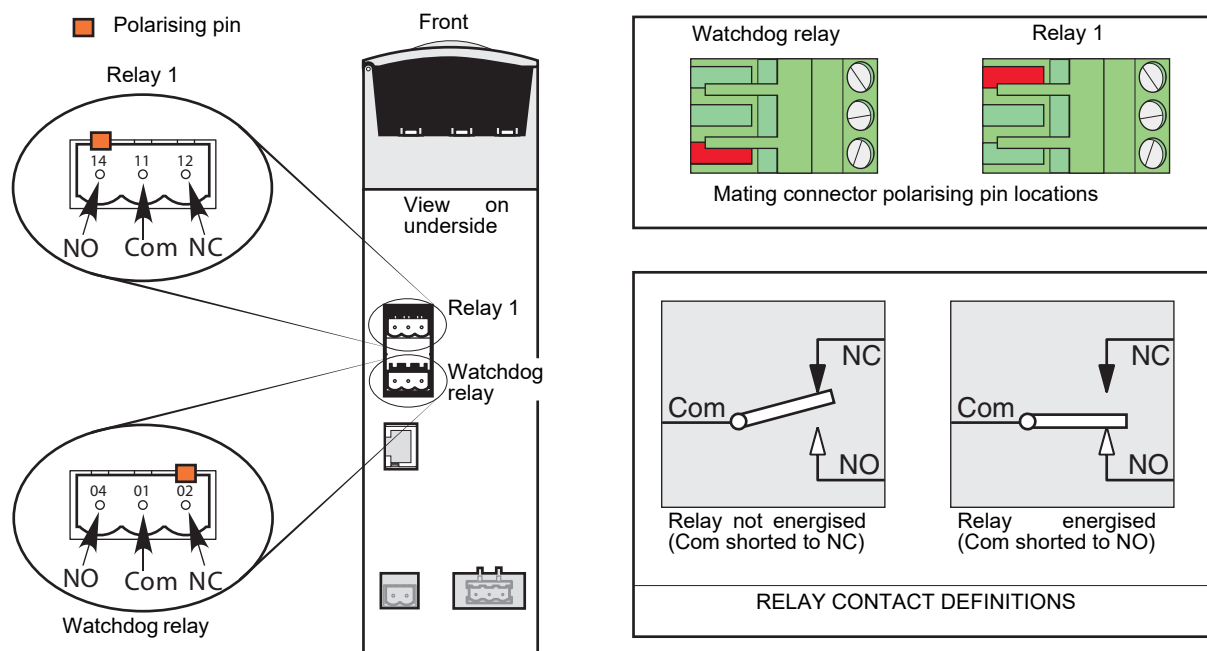

Figure 12 Relay Connector Location and Pinout
The 'watchdog' relay is wired to a connector on the underside of the driver module (Figure 12).
This relay, supplied as standard, is located adjacent to the watchdog relay (Figure 12). The energisation/de-energisation of the relay coil is under software control and is fully configurable by the user. The terms Normally open (NO) and Normally closed (NC) refer to the relay in its de-energised state. Up to three further relays are available if optional I/O Modules are fitted (see Figure 11).